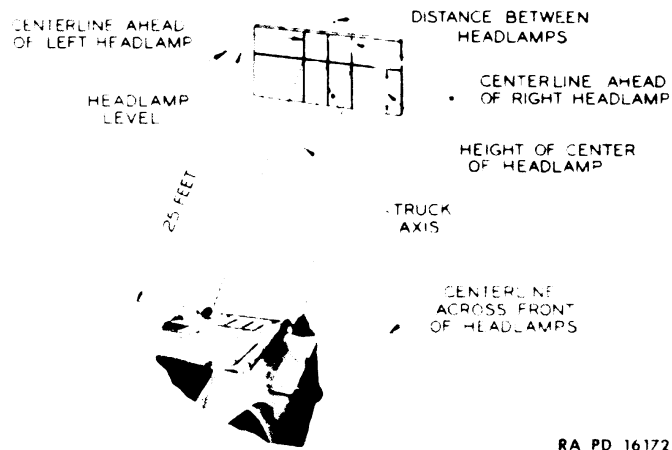
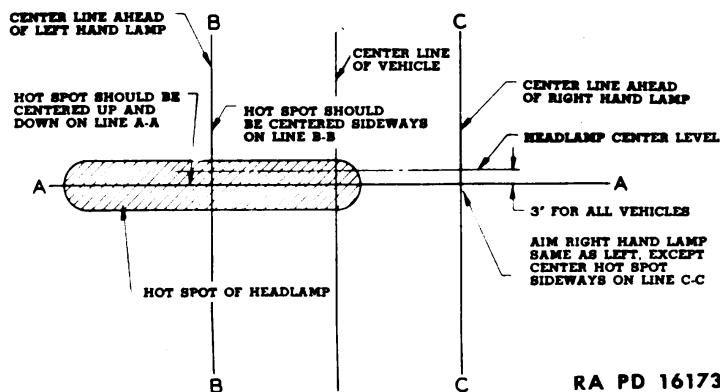

Figure 119—Head Lamp Aiming Chart
Figure 120—Head Lamp Aiming Pattern
(1) Place vehicle on level floor so that head lamps are 25 feet from a smooth vertical surface, preferably of light color. A wall or door is suitable. Center line of the vehicle should be perpendicular to the surface.
(2) Draw a horizontal line on vertical surface at height of lamp center, as shown in Fig. 119. Locate points on this horizontal line on which projected center line of vehicle intersects. Measure distance between lamp centers and divide this distance equally on either side of center mark. Then draw two vertical lines directly ahead of each lamp center as shown.
(3) Switch on high or bright beam in head lamps and cover one lamp while adjusting other.
(4) Loosen support nut inside bow compartment and aim lamp so that beam pattern registers with horizontal and vertical lines as shown in Fig. 120. Then tighten nut securely, taking care not to change location of beam pattern on vertical surface.
(5) After lamp is aligned, cover its beam and proceed in same manner with opposite lamp.